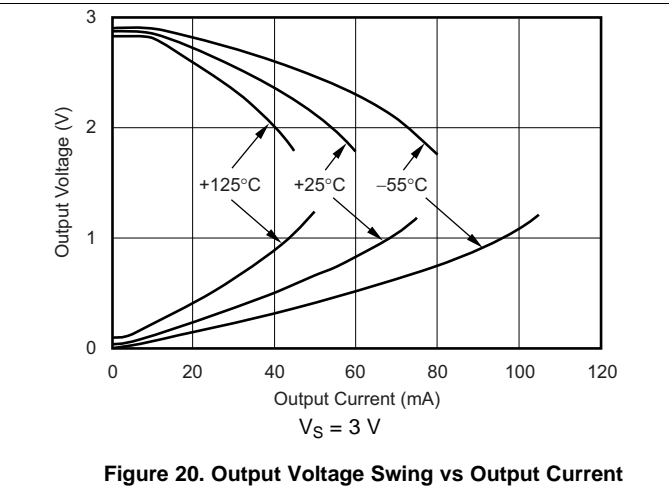
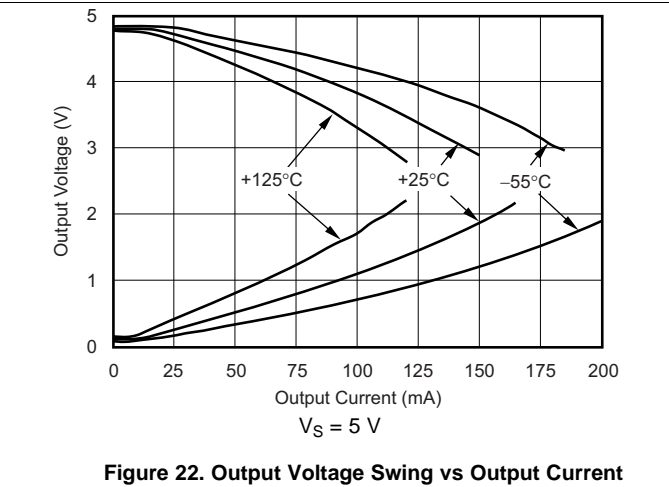
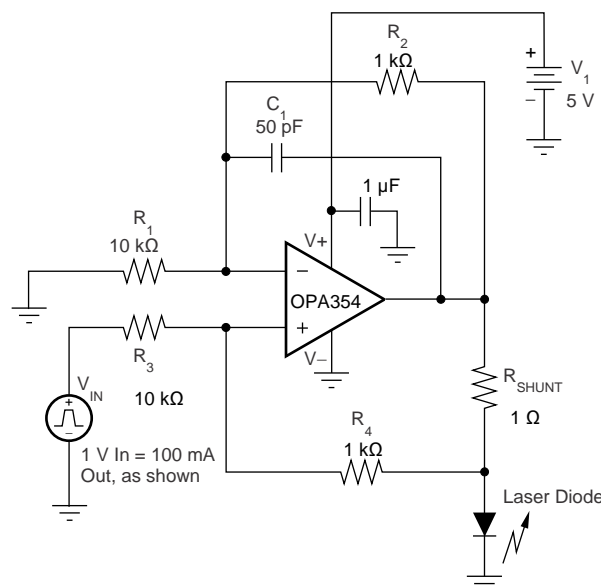
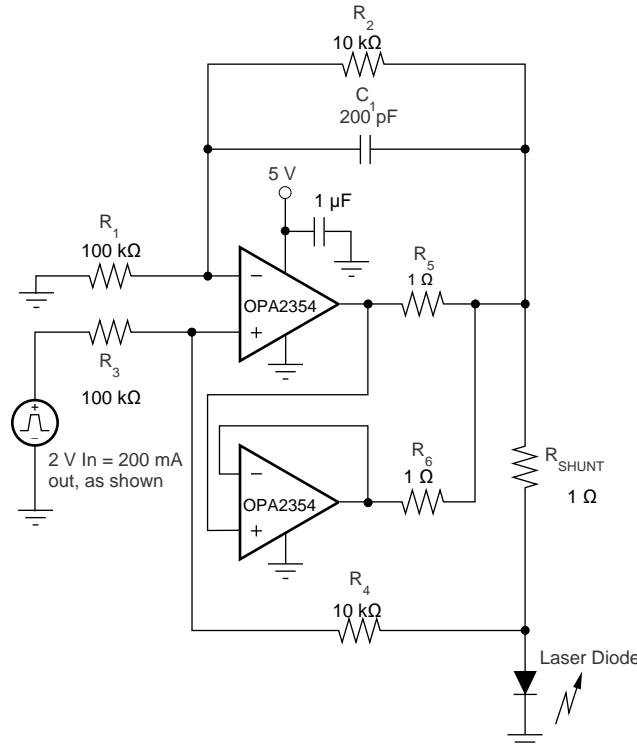

Figure 20. Output Voltage Swing vs Output Current
Figure 22. Output Voltage Swing vs Output Current
Figure 30. Laser Diode Driver
Figure 31. Parallel Operation
(1) See typical characteristic curves, *Output Voltage Swing vs Output Current* (Figure 20 and Figure 22).
(2) Specified by design.
A class AB output stage with common-source transistors achieves rail-to-rail output. For high-impedance loads ($> 200 \Omega$), the output voltage swing is typically 100 mV from the supply rails. With 10- Ω loads, a useful output swing is achieved while maintaining high open-loop gain. See the typical characteristic curves, *Output Voltage Swing vs Output Current* (Figure 20 and Figure 22).
The OPAX354 output stage supplies a continuous output current of ± 100 mA and yet provide approximately 2.7 V of output swing on a 5-V supply, as shown in Figure 30. For maximum reliability, TI does not recommend running a continuous DC current in excess of ± 100 mA. See the typical characteristic curves, *Output Voltage Swing vs Output Current* (Figure 20 and Figure 22). For supplying continuous output currents greater than ± 100 mA, the OPAX354 may be operated in parallel, as shown in Figure 31.